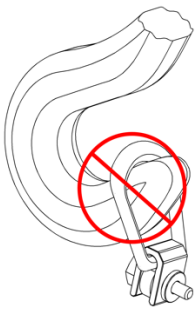

Fig 1
- NEVER use an oversize hook or other oversize lifting device that will pry or tend to deform the bail/ring (Fig.1).